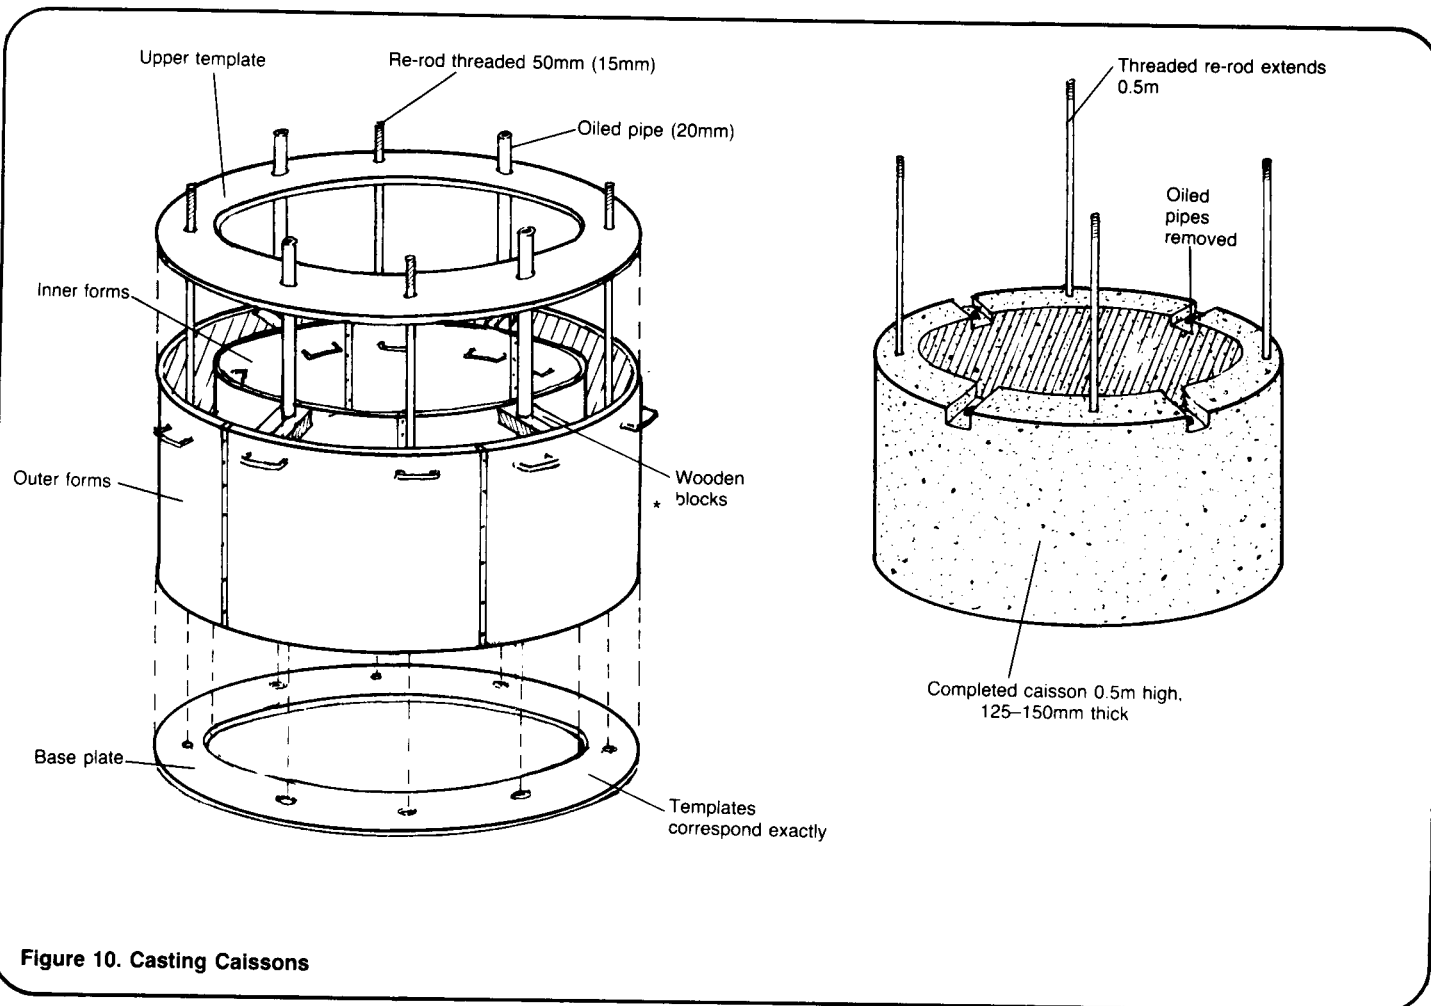

Figure 10. Casting Caissons
23. There will be a gap of about 150mm between the top of the fourth set of shutters and the bottom of the concrete lining of the first lift, as shown in Figure 10. To pour concrete into this set of shutters you will need a funnel or scoop made from scrap metal. This will prevent spilling concrete.
aquifer. If you have indeed reached a main aquifer, line this last section of the shaft as before and build an extra-deep curb as shown in Figure 10.
26a. Cast all types of rings in a mold 0.5m high, with an outside diameter of 1.2m and an inside diameter of 0.90-0.95m. See Figure 10. If standard concrete is to be used, it can be the same mix as was used for the
27. Roll the first caisson ring beside the well shaft and tip it on end so that the re-rods are pointing up. Lower the stretcher over two re-rods on opposite sides of the ring. The stretcher must be made of steel or wood and be capable of supporting the weight of the caisson rings, each of which may weigh over 350kg. Fit lengths of 20mm diameter pipes and washers over the re-rods so that the stretcher can be tightly bolted down as shown in Figure 10.